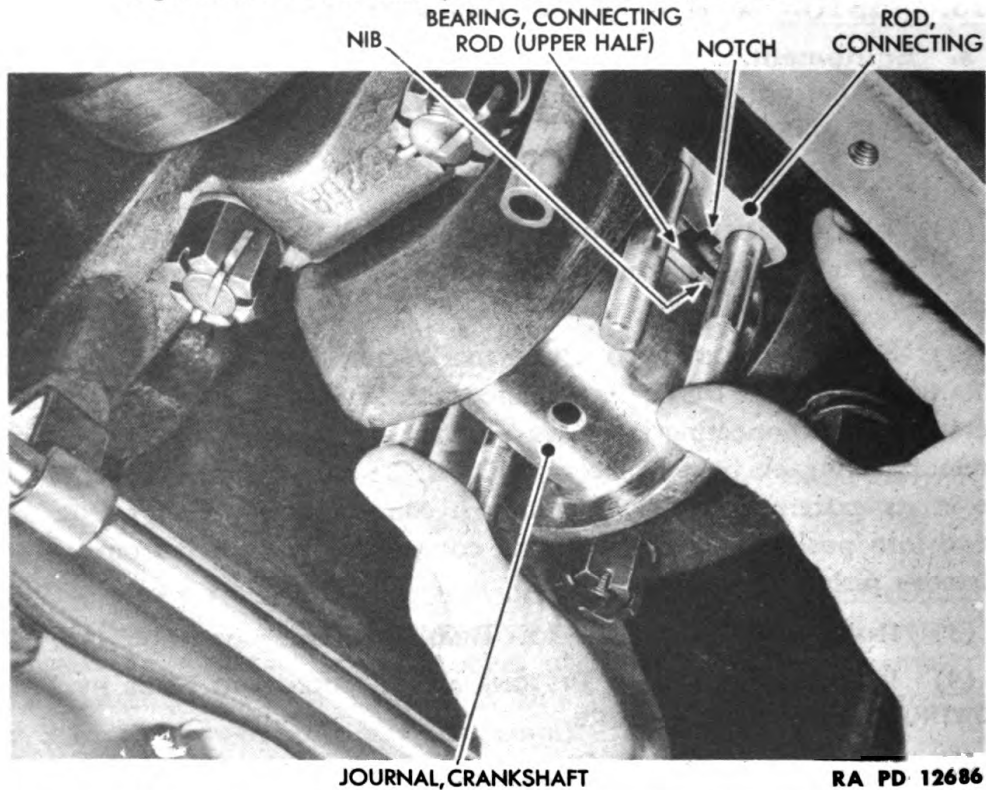

Figure 116—Removal of Upper Half of Connecting Rod Bearing
(4) REMOVE UPPER HALF OF CONNECTING ROD BEARING (fig. 116). Push connecting rod and piston upward, by hand, until upper half of connecting rod bearing can be slipped around crankshaft journal and removed.
- (5) REMOVE OTHER CONNECTING ROD BEARINGS IN SAME MANNER.
(1) INSTALL UPPER HALF OF CONNECTING ROD BEARING (fig. 116). Be sure all surfaces are wiped clean and bearing is lubricated properly. Then place upper half of connecting rod bearing in position on crankshaft. Pull connecting rod and piston down so that notch in connecting rod fits over nib of bearing.